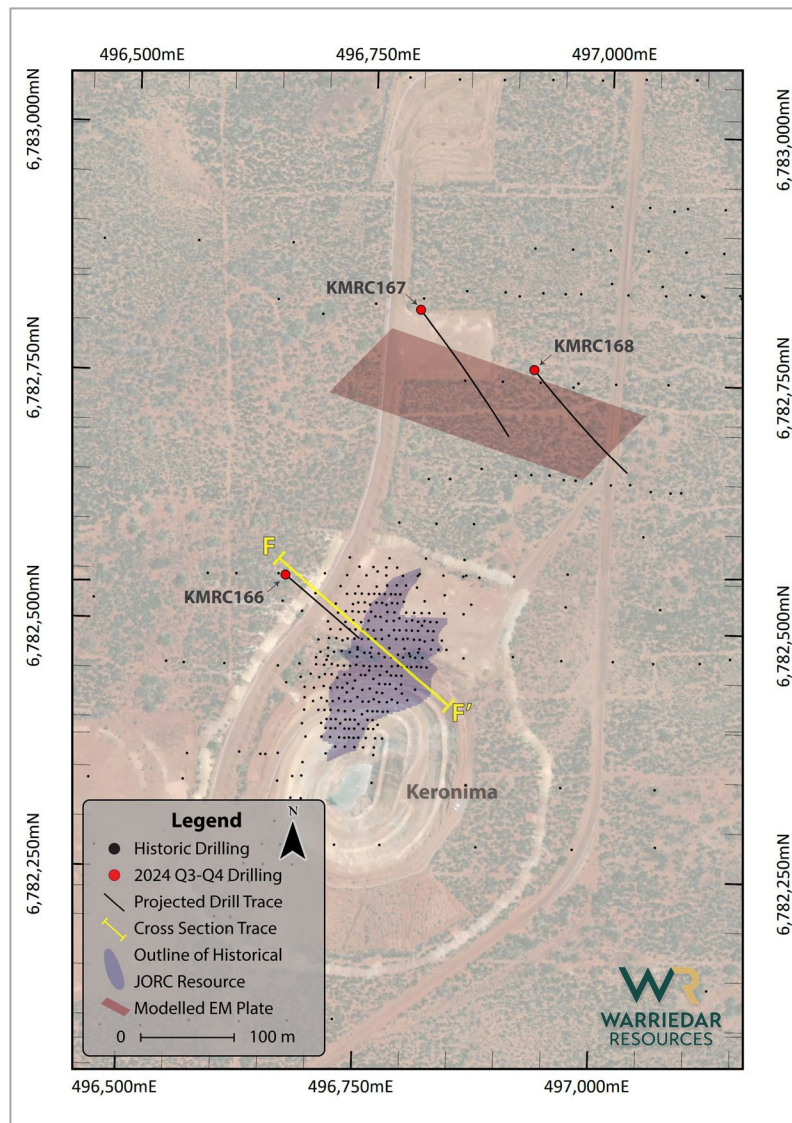

Figure 13: Oblique view looking north (to show the 3D nature of the EM plate) highlighting Keronima including drill hole locations and the EM plate location.
Of the three holes drilled at the Keronima area, two tested a conductor modelled using electromagnetic (EM) data (KMRC167 and KMRC168) north of the main pit, and one tested for depth extensions below the deposit (KMRC166). Refer Figure 13.